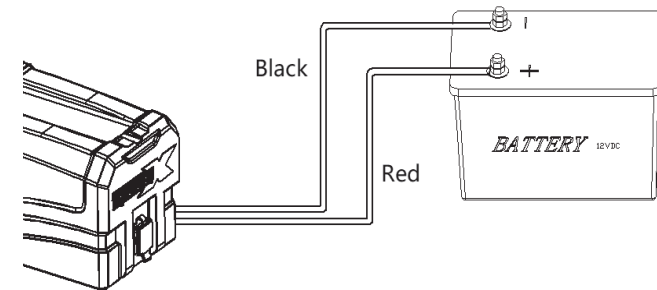

Fig 14
Step 3: Reconnect the power cables to the battery. (Fig 14)